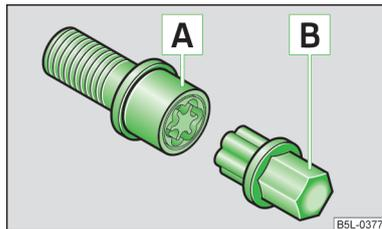

Fig. 144
- Insert adapter B » Fig. 144 with its toothed end fully into the inner toothing of the anti-theft wheel bolt A to the stop so that only the outer hexagon projects.